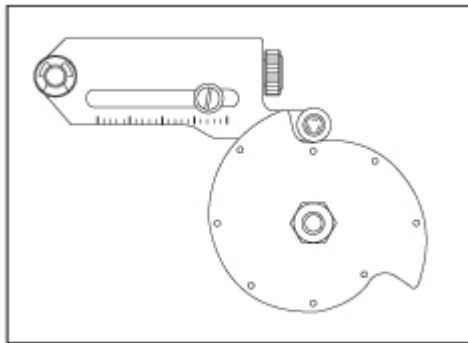

Figure 3: Alignment for Cams
4. Make sure the round mark on the left hand side of the characteristic curve is lined up with the span arm roller bearing. See Figure 3